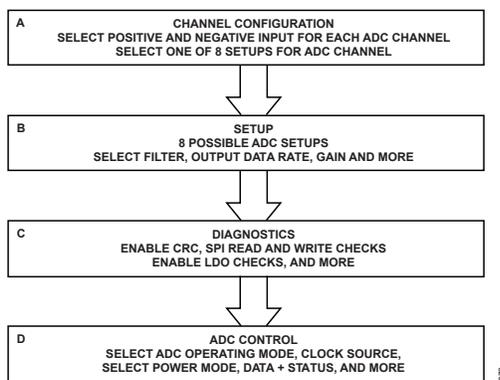

Figure 68. Suggested ADC Configuration Flow
Figure 68 shows an overview of the suggested flow for changing the ADC configuration, divided into the following four blocks:
- ▶ Channel configuration (see Box A in Figure 68)
- ▶ Setup (see Box B in Figure 68)
- ▶ Diagnostics (see Box C in Figure 68)
- ▶ ADC control (see Box D in Figure 68)